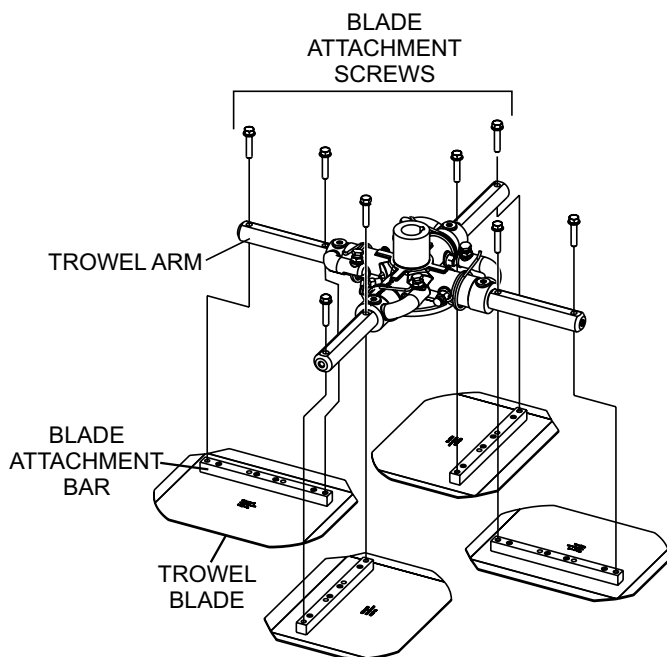

Figure 52. Blade Removal
2. Remove the bolts and lock washers from all the trowel arms, and then remove the blades as shown in Figure 52.